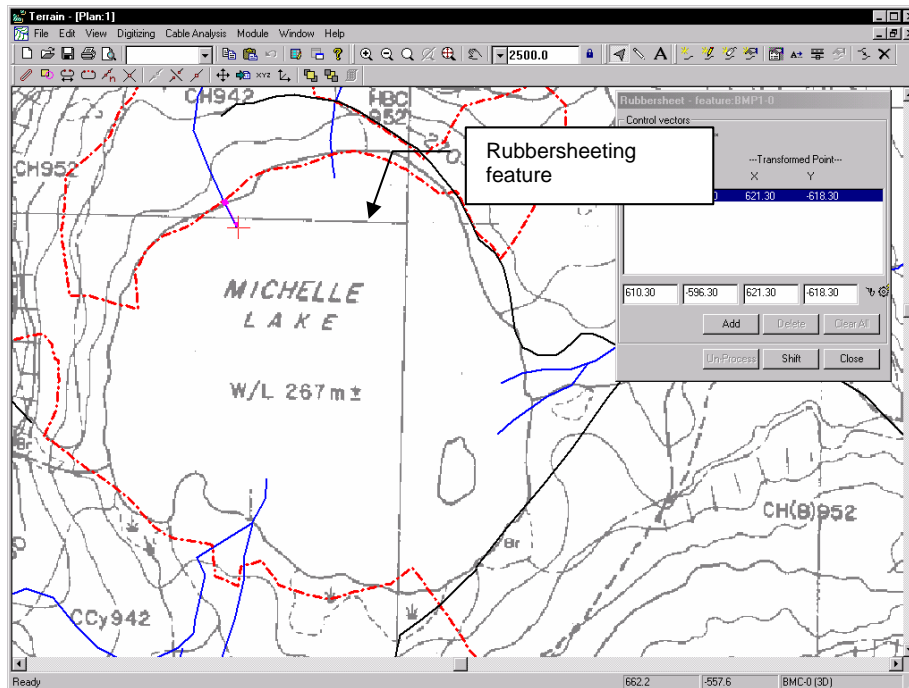

Figure 4.13: First Rubbersheeting Vector
3. The dialog box already has a set of coordinates in. Enter the vector as shown on the right hand side of Figure 4.13 and press the check mark  button to create the shift vector.